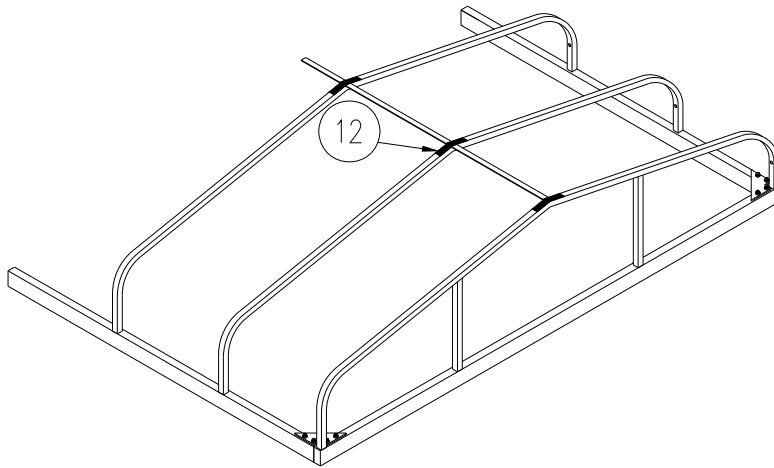

Figure 2-9.
11. Refer to **Figure 2-9**. Clean the top of the canopy ribs and carriage bolt head (about 2 inches longer than Velcro cut length each side of bolt) with cloth dampened in rubbing alcohol. Allow to dry.